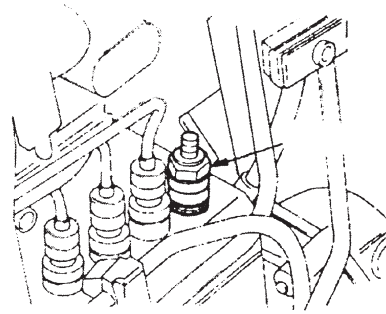
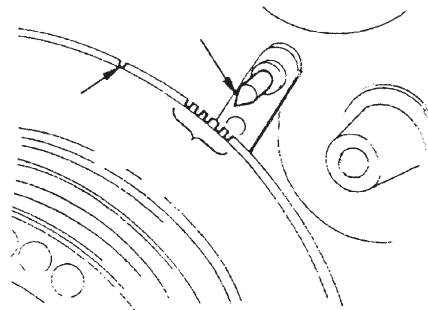

Fig. 1-16
Fig. 1-17
(3) Loosen the oil injection pipe of the first cylinder; dismantle the spring of dump valve bracket and the valve. Mount the dump valve bracket on the oil injection pump. See Fig. 1-16.
(4) While the fuel is compressed and delivered by oil supply pump, turn slowly the crankshaft clockwise as shown in Fig.1-16 and stop turning it when the oil level of dump valve vase raises to the position it stops. See Fig.1-17 to confirm the marks of the needle.